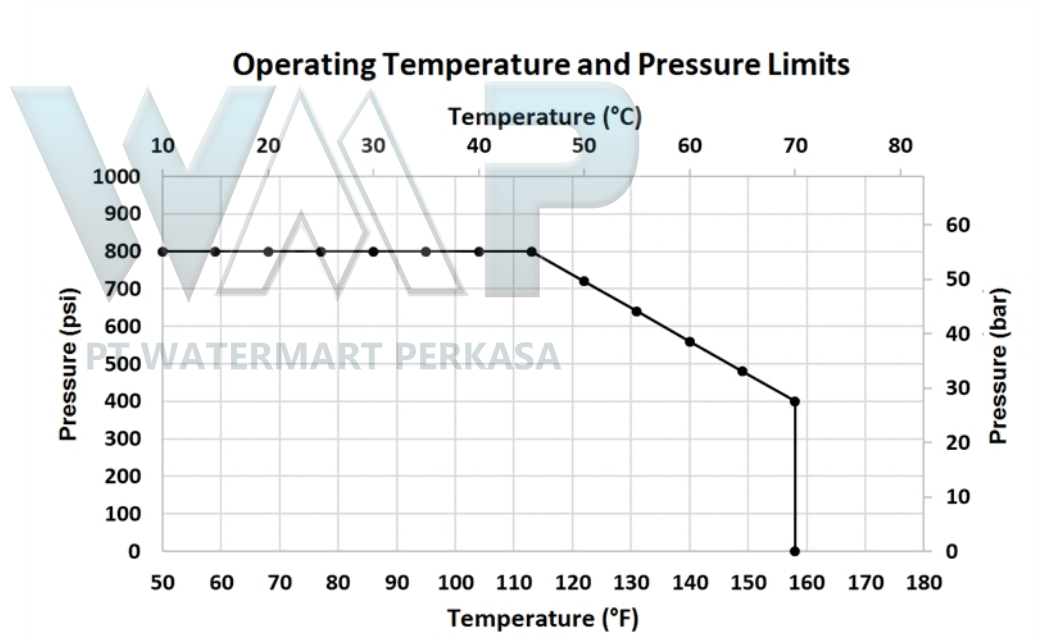

Figure 3: Maximum allowed temperature and pressure for FilmTec™ Hypershell™ NF245N-8038/48-FF and FilmTec™ Hypershell™ NF245N-3838/48-FF
a. See Figure 3, Maximum allowed temperature and pressure for FilmTec™ Hypershell™ NF245N-8038/48-FF and FilmTec™ Hypershell™ NF245N-3838/48-FF.